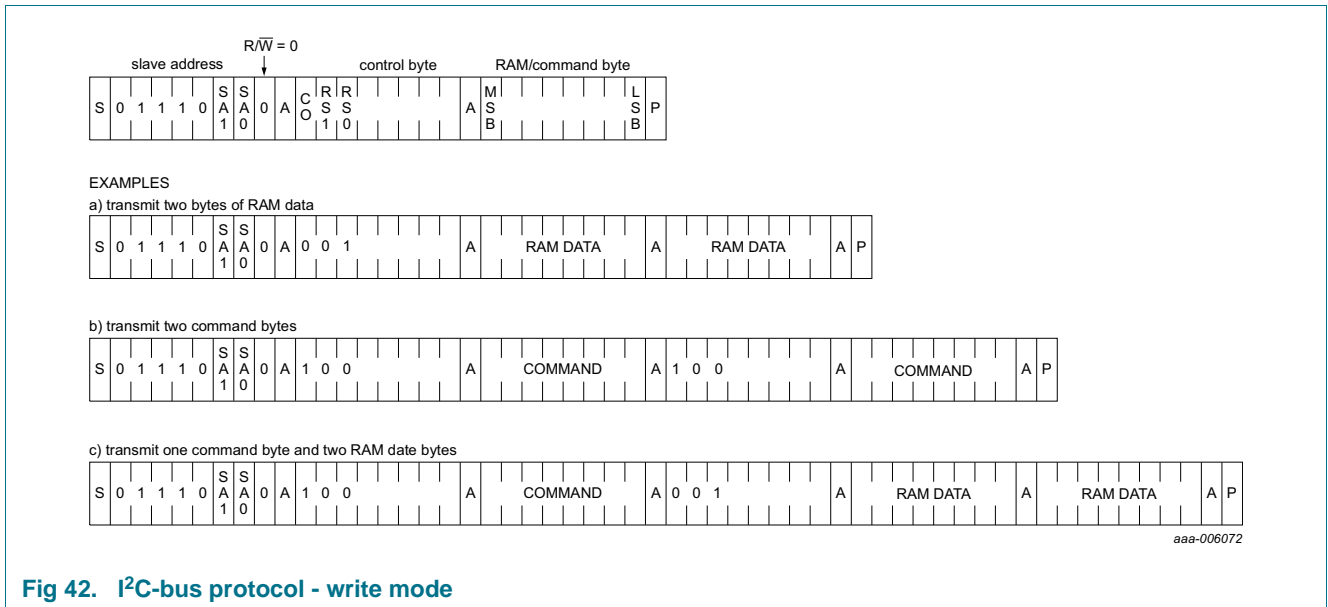

Fig 42. I2C-bus protocol - write mode
The I2C-bus protocol is shown in Figure 42. The sequence is initiated with a START condition (S) from the I2C-bus master which is followed by one of the four PCA8538 slave addresses available. All PCA8538 with the corresponding SA1 and SA0 level acknowledge in parallel to the slave address, but all PCA8538 with the alternative SA1 and SA0 levels ignore the whole I2C-bus transfer.